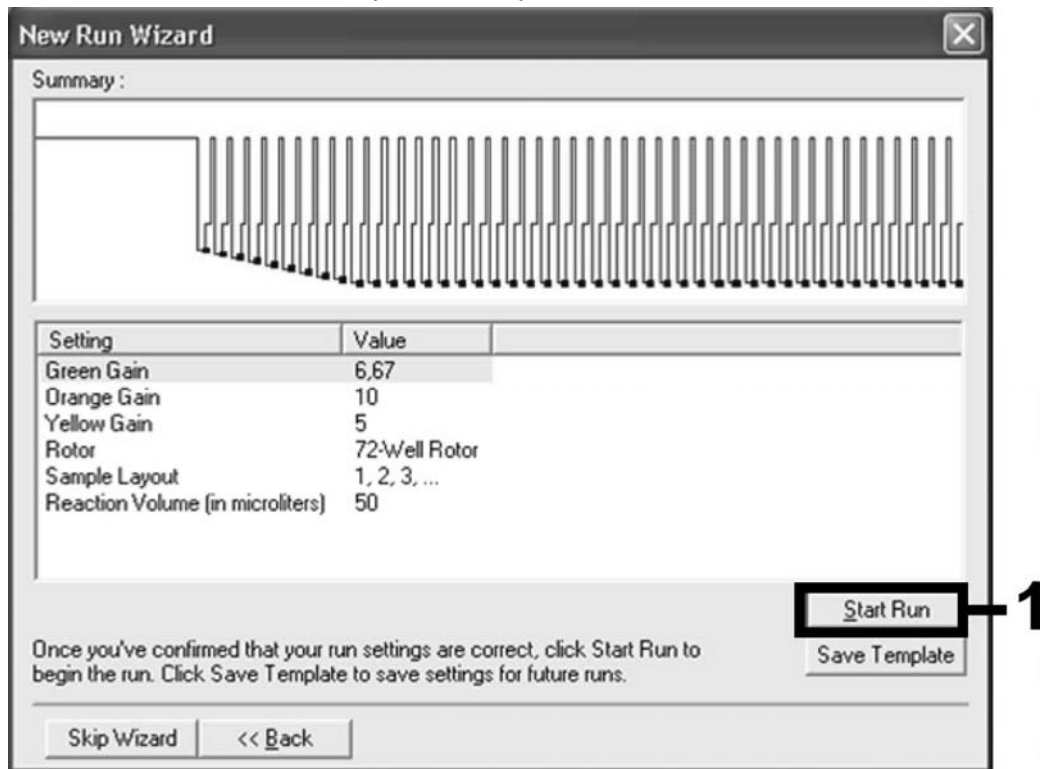

Figure 7. Starting the run.
Starting the run	Figure 7
10. The gain values determined by the channel calibration are saved automatically and are listed in the last menu window of the programming procedure (Figure 7). Click "Start Run".